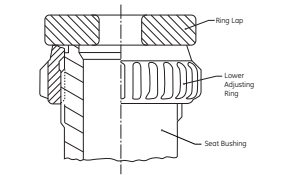

Figure 28: Bushing Seat Assembly
- Note:** For a valve set pressure of 1200 psig (81.6 barg), the ring will have to be lowered two (2) notches below the bushing seat. This will be the starting position, with the final position being determined during field testing (See Figure 28).